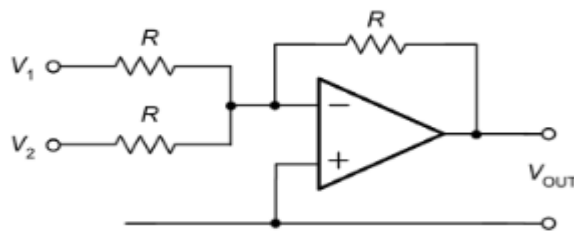

Fig 2.14. A summing amplifier
- A summing amplifier using an operational amplifier is shown in Fig. 2.14.